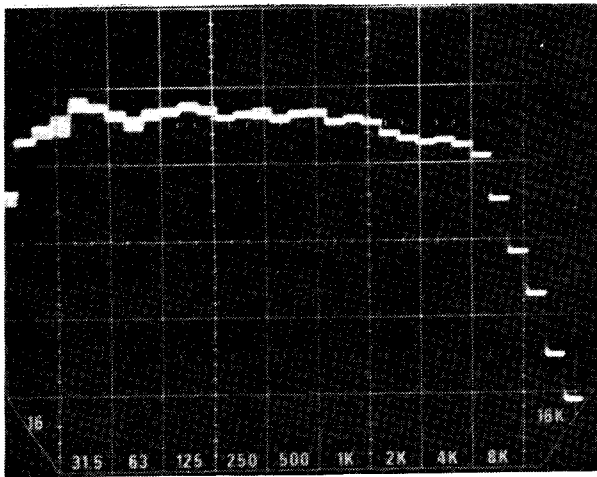

FIGURE 1
**Figure 1** shows the frequency response of a 1 mil optical lens wire a pink noise soundtrack as a source. Notice the roll-off of the frequency response around 6.3 kHz. **Figure 2** shows the same soundtrack played with a NSOL 0.487 mil lens. The frequency response is extended well beyond 12 kHz without slit correction circuitry.